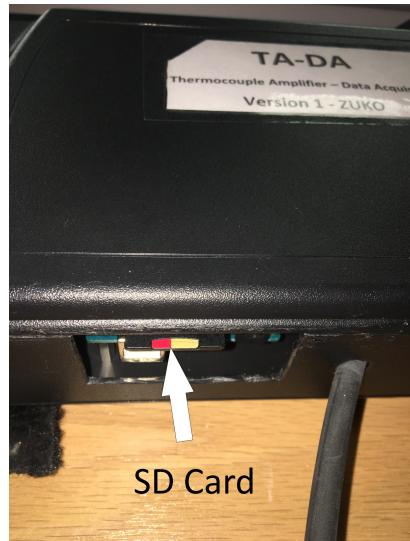

Figure 10: SD card slot location
4. Ensure a compatible SD card is inserted securely into the TADA datalogger (see Figure 10)